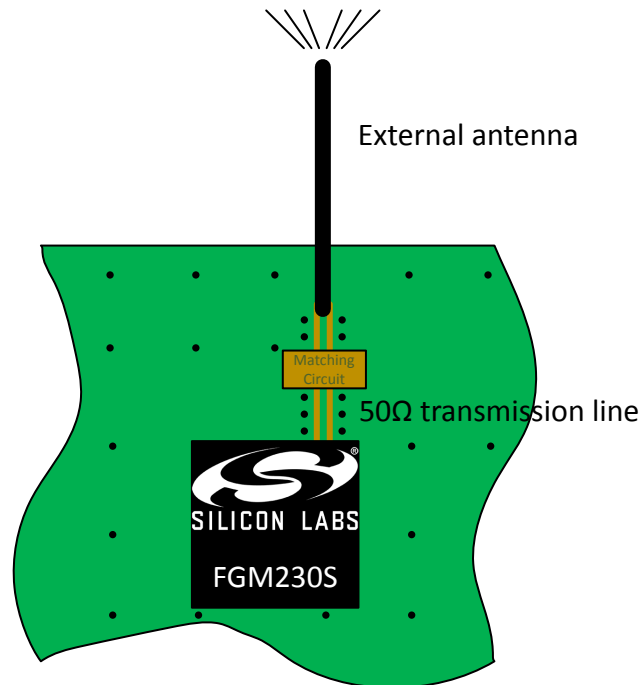

Figure 7.1. FGM230S Implementation with External Antenna
- For an external antenna type, see Figure 7.1 FGM230S Implementation with External Antenna on page 37, the location of the FGM230S and its antenna is fairly flexible, but as described in AN853, the performance of the antenna will depend on the ground plane of the entire application PCB.